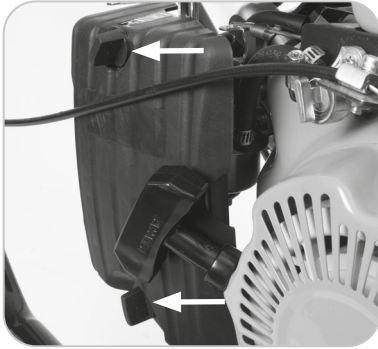

Fig. 16
- Unscrew the wing nuts from the Air Filter housing cover and remove it. (**Fig. 16**)